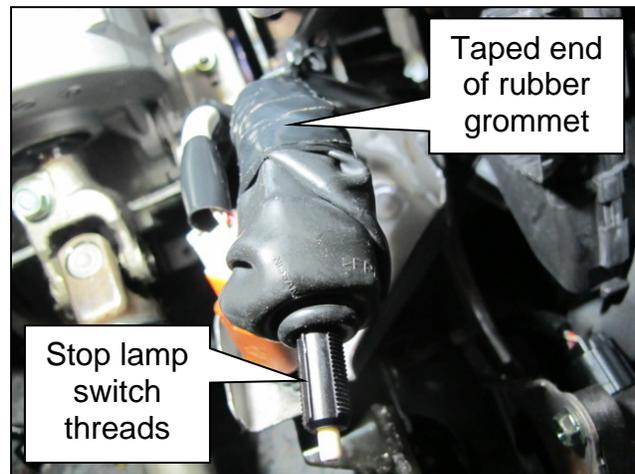

Figure 9
13. Tape off the large opening of the rubber grommet as shown in Figure 9.